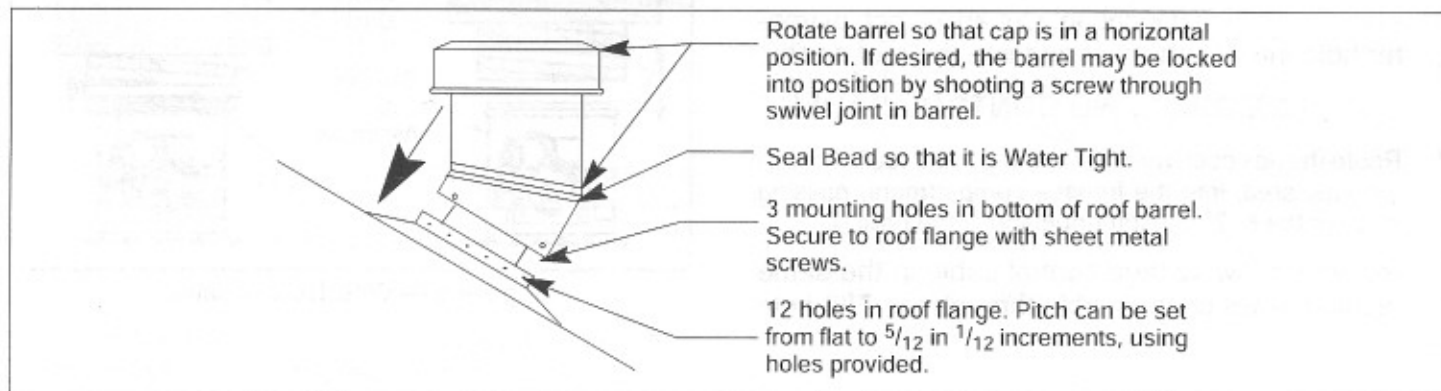

Figure 9 - Roof Cap Assembly
2. Attach the roof cap and tube assembly to the roof flange, using the three sheet-metal screws provided. See FIGURE 9.